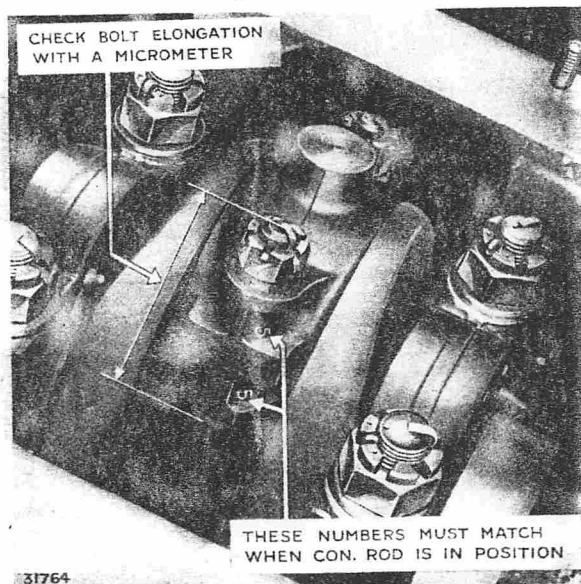

FIG. 72. CONNECTING ROD IN POSITION
3. The connecting rod bolts must be tightened to within the limits 3.682 in. to 3.683 in., giving an overall bolt elongation of .006 in. to .008 in., which must be measured with a micrometer (Fig. 72).